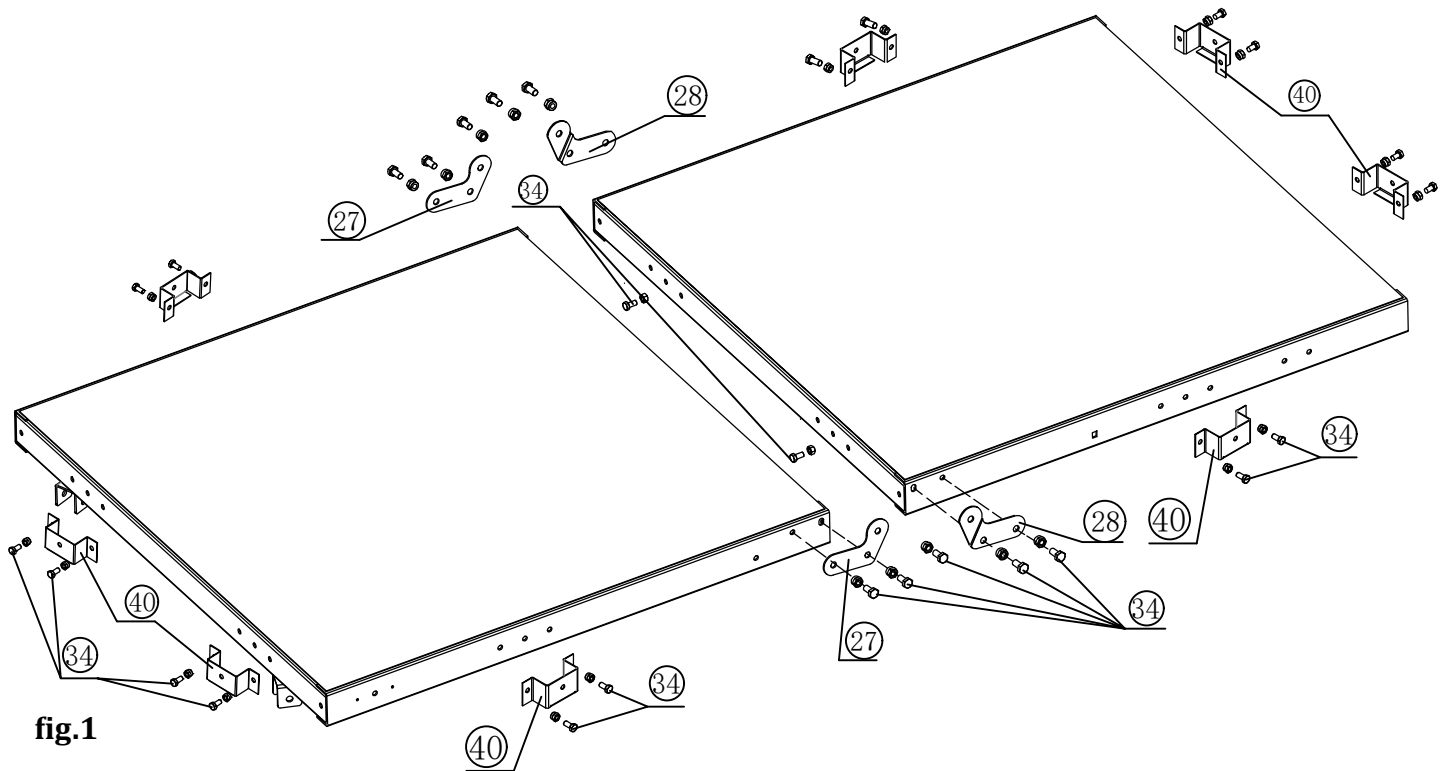

fig.1
Lay the front bed (26) and rear bed (21) as shown. Note the location of the marker lights holes in the front side rails. See fig.1
1. Use M10 x 20 hex head bolts and nuts (34) to mount the 8 stake pockets (40) to the trailer as shown.
2. Use M10 x 20 hex head bolts and nuts (34) to mount the inside hinge (27) to the front bed (26) and the outside hinge (28) to the rear bed (31);
3. Keep the two center M10 x 20 hex head bolts and nuts (34) to connect the bed halves aside until you are ready to join the bed halves and make the trailer one solid deck.